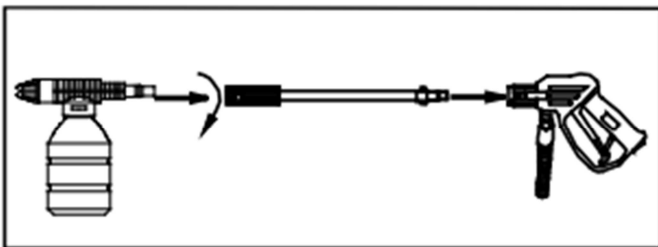

Figure 8 – Attach applicator to gun
4. Attach detergent applicator to gun. ( See Figure 8)